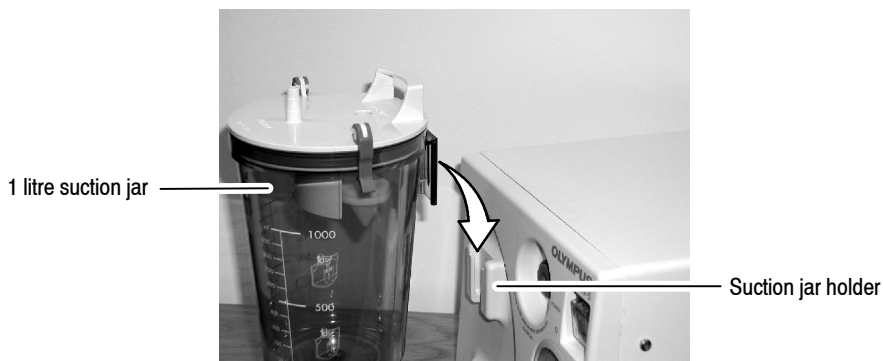

FIGURE 3-7
- (3) Referring to Figure 3-7, locate the suction jar into the suction jar holder located on the front panel of the unit.